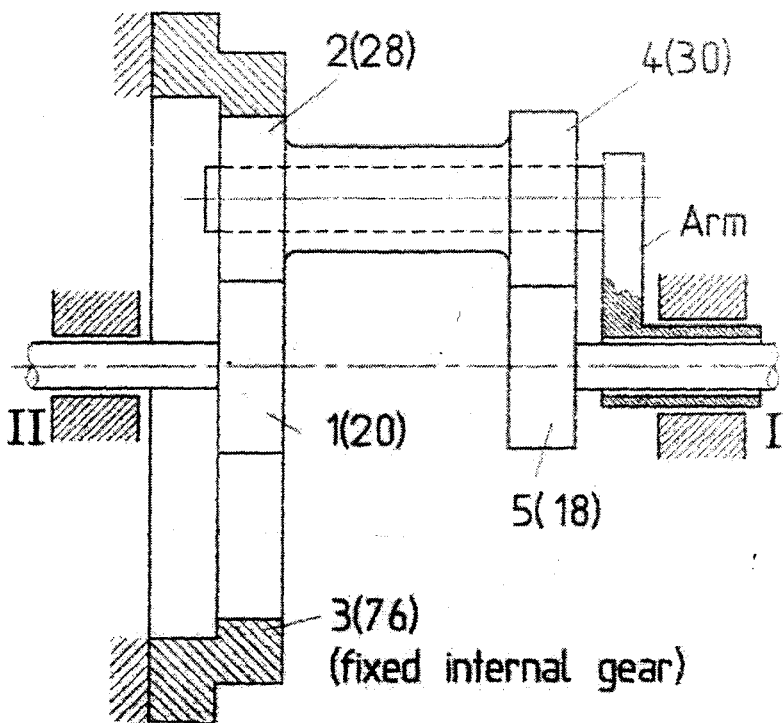
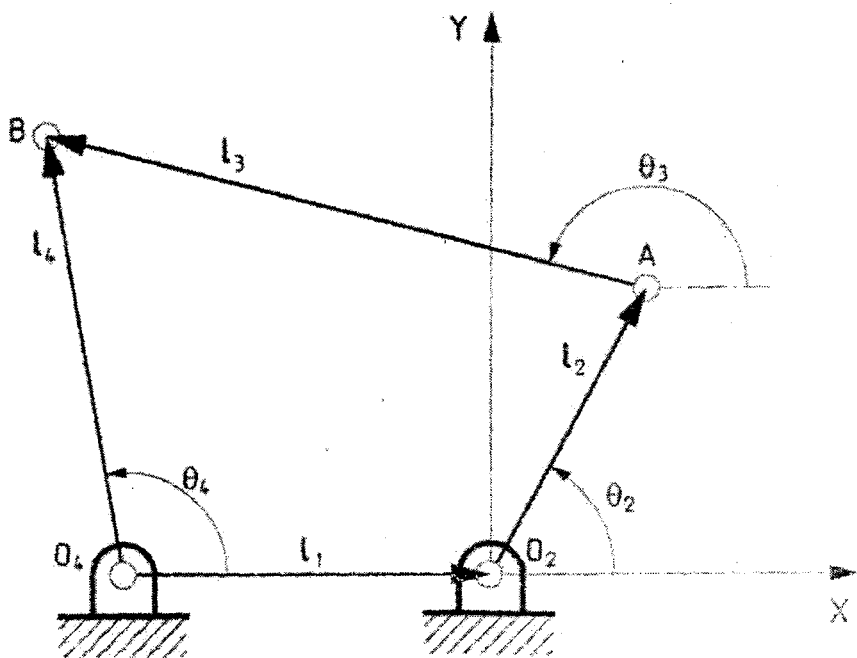

Figure 5
Figure 6
- (b) Figure 5 shows an epicyclic gear train in which the numbers of teeth on various gears are indicated within the parenthesis. If shaft I rotates at 60 rad/s, determine the speed and the direction of rotation of shaft II. Gear 3 is an internal fixed gear. If the shaft I is driven by a torque of 10 N.m, then also determine what torque is needed to hold gear 3 fixed. (5 + 3)
7. (a) Derive the expression for the contact ratio for a rack and a pinion in terms of usual parameters. (6)
- (b) A rack is in mesh with a pinion of 52 mm pitch circle radius. The operating pressure angle is 20° , the addendum for both the rack and the pinion is 5 mm. Determine the contact ratio if the module is given to be 4 mm. (4)
8. (a) Refer to Figure 6. **With respect to this figure**, obtain the Freudenstein's equation for three position synthesis. (4)
- (b) Determine the link-lengths of the four-bar linkage shown in Figure 6, to generate the following pairs of coordinated movements: